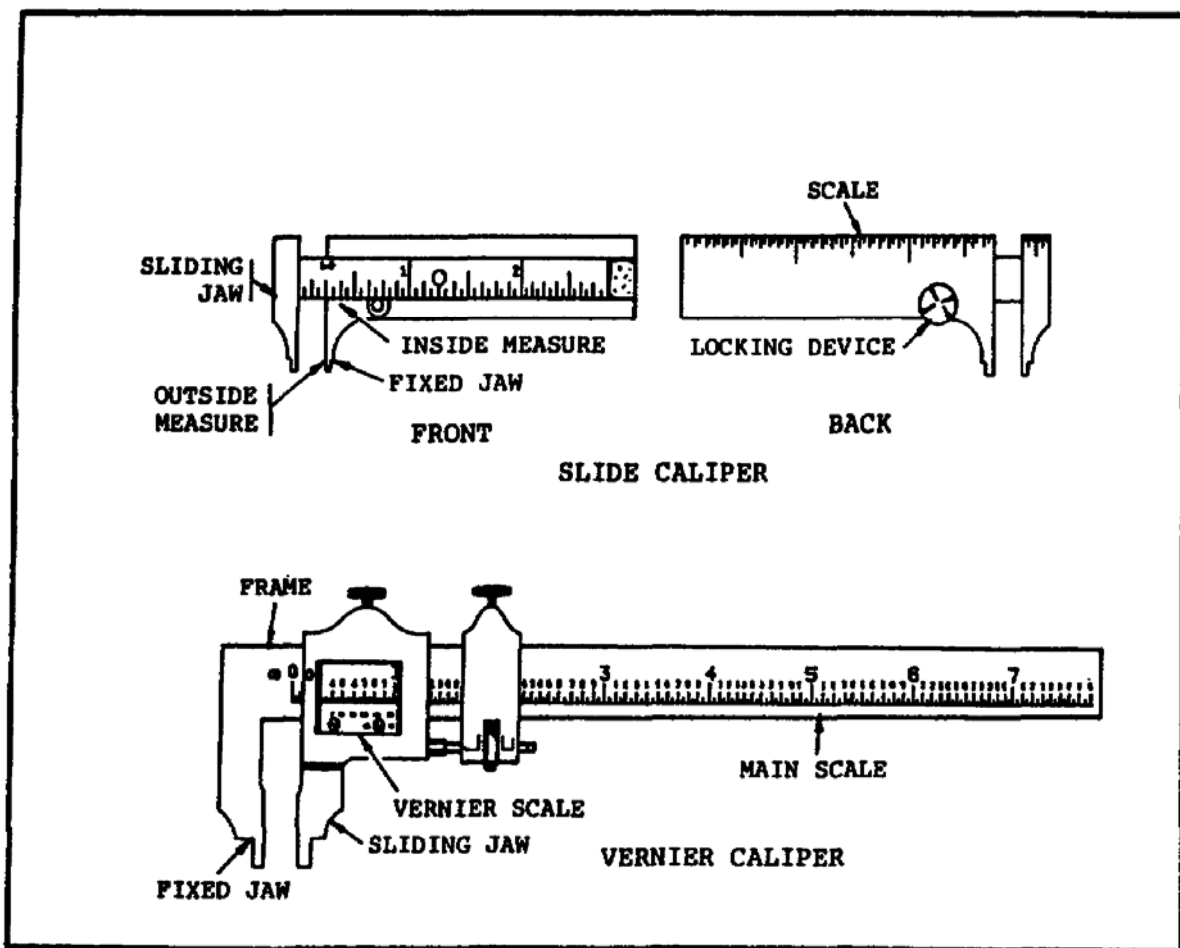

FIGURE 178. CALIPERS - CALIBRATED.
(6) *Vernier Calipers*. This type of caliper uses the Vernier scale. The Vernier scale consists of a short auxiliary scale usually having one more graduation in the same length as the longer main scale. The Vernier caliper (figure 178) consists of a L-shaped frame, the end of which is a fixed jaw; the long arm of the L is inscribed with the main true scale or fixed scale. The sliding jaw carries the Vernier scale on either side. The scale on the front side is for outside measurements; the scale on the back is for inside measurements. On some Vernier calipers, the metric system of measurement is placed on the back side of the caliper in lieu of a scale used for inside measurements. In such cases, add the thickness of the nibs to the reading when making inside measurements. The tips of the jaws are formed so that inside measurements can be taken. The thickness of the measuring points is automatically compensated for on the inside scale. The length of the jaws will range from 1 1/4 inches to 3 1/2 inches, and the minimum inside measurement with the smallest caliper is 1/4 inch or 6 millimeters. Vernier calipers are made in standard sizes of 6, 12, 23, 36, and 48 inches, and 150, 300, 600, and 900 millimeters. The jaws of all
(7) *Slide Calipers.* The slide calipers (figure 178) have one fixed jaw and one sliding jaw. When the two jaws are brought in contact with surfaces to be measured, the distance between the surfaces may be read from the scale. The ends of the jaws are so shaped that it is possible to measure both inside and outside surfaces. Slide calipers are usually available in 3 inch sizes, although larger size calipers are made. The standard 3 inch slide caliper will measure from 0 to about 2 inches outside, and from 1/8 inch to a little more than 2 inches inside. The caliper shown has a mark or graduation line on the fixed jaw, which enables the user to read the inside measure, while the outside measure can be read directly from the inner edge of the fixed jaw. If these marks were not on the slide caliper, it would be necessary to add the thickness of the nibs to the reading when using it as an inside caliper. All slide calipers are equipped with a locking device